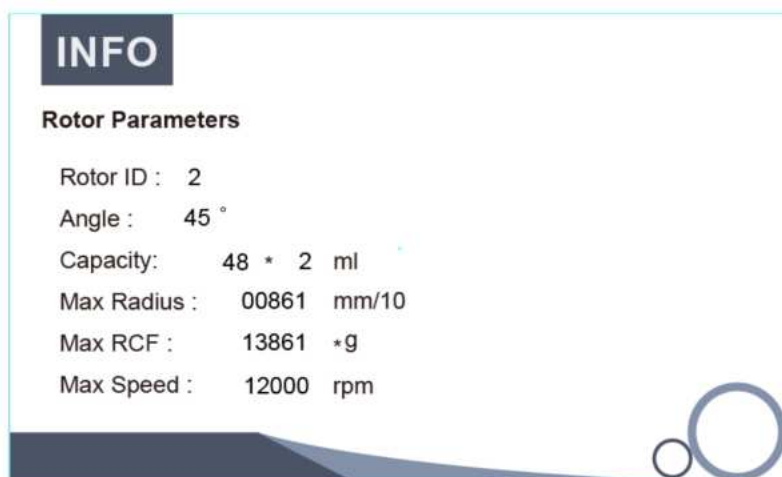

Figure 7-6 Browsing rotor parameters
1) In the preparation mode, press and hold  button, the information of the current rotor will be displayed. See Figure 7-6, take rotor 2 for example.
- Press and hold  button, the rotor information is displayed, as shown in the Figure 7-6.